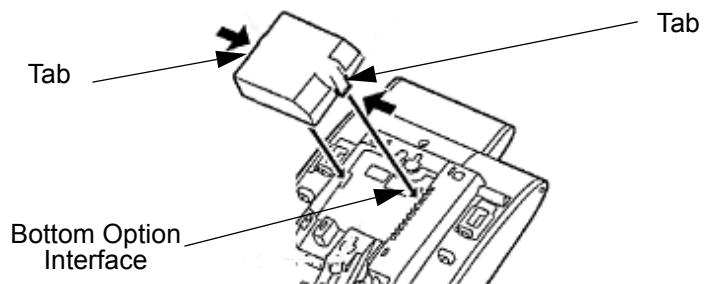

Figure 6-32 Install APR-L UNIT
7. Using the exposed Bottom Option Interface as a guide, install the APR-L UNIT in the bottom of the DTL multiline terminal. Push down until left and right tabs are seated (Refer to Figure 6-32 Install APR-L UNIT).